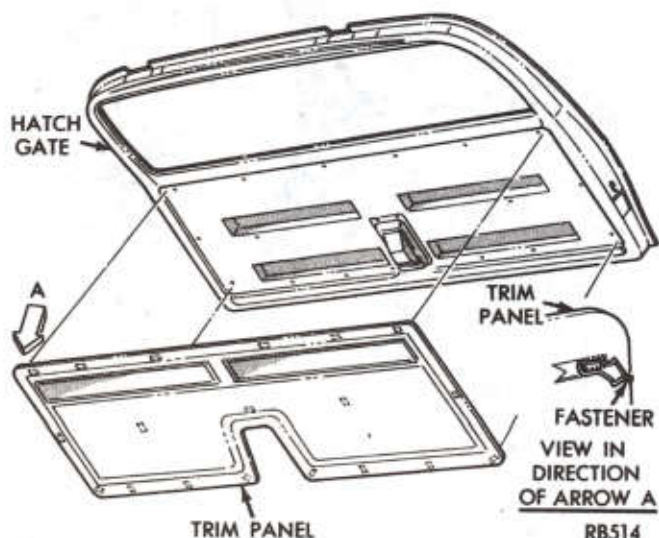

Fig. 14—Liftgate Trim Panel
LIFTGATE HARDWARE AD, AW (Figs. 14 thru 17)
- (1) Open liftgate.
- (2) Remove liftgate trim panel (Fig. 14).